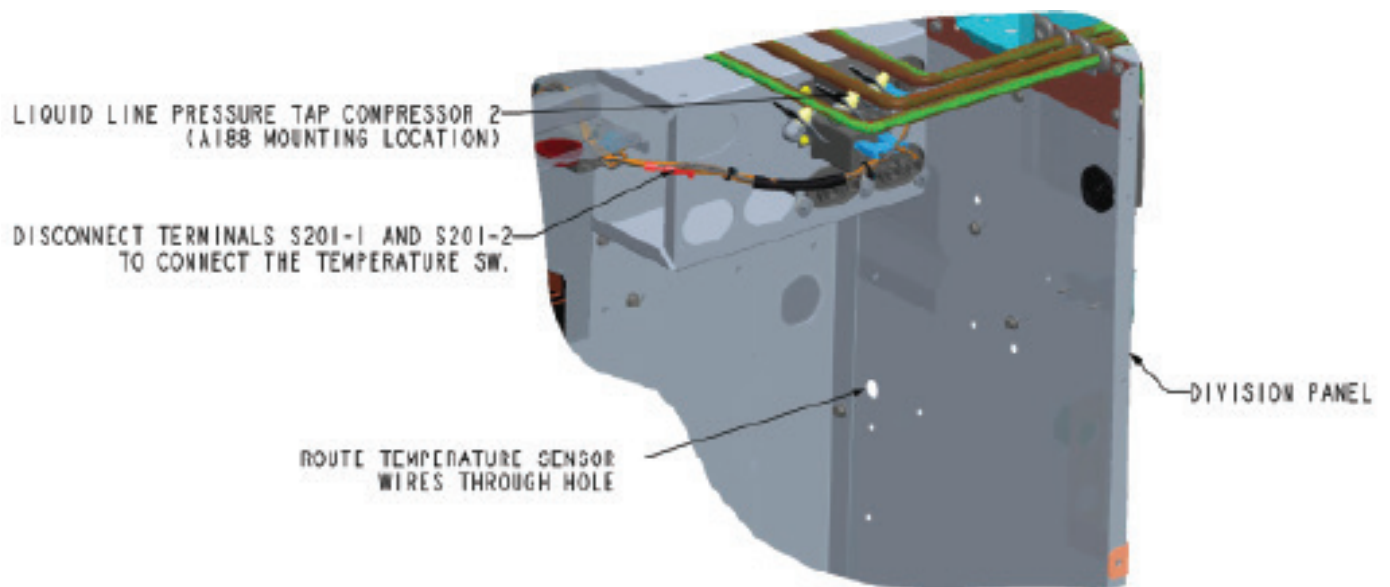

FIGURE 2
- 6 - Install the pressure transducer on compressor 2 liquid line pressure tap as shown in FIGURE 2.